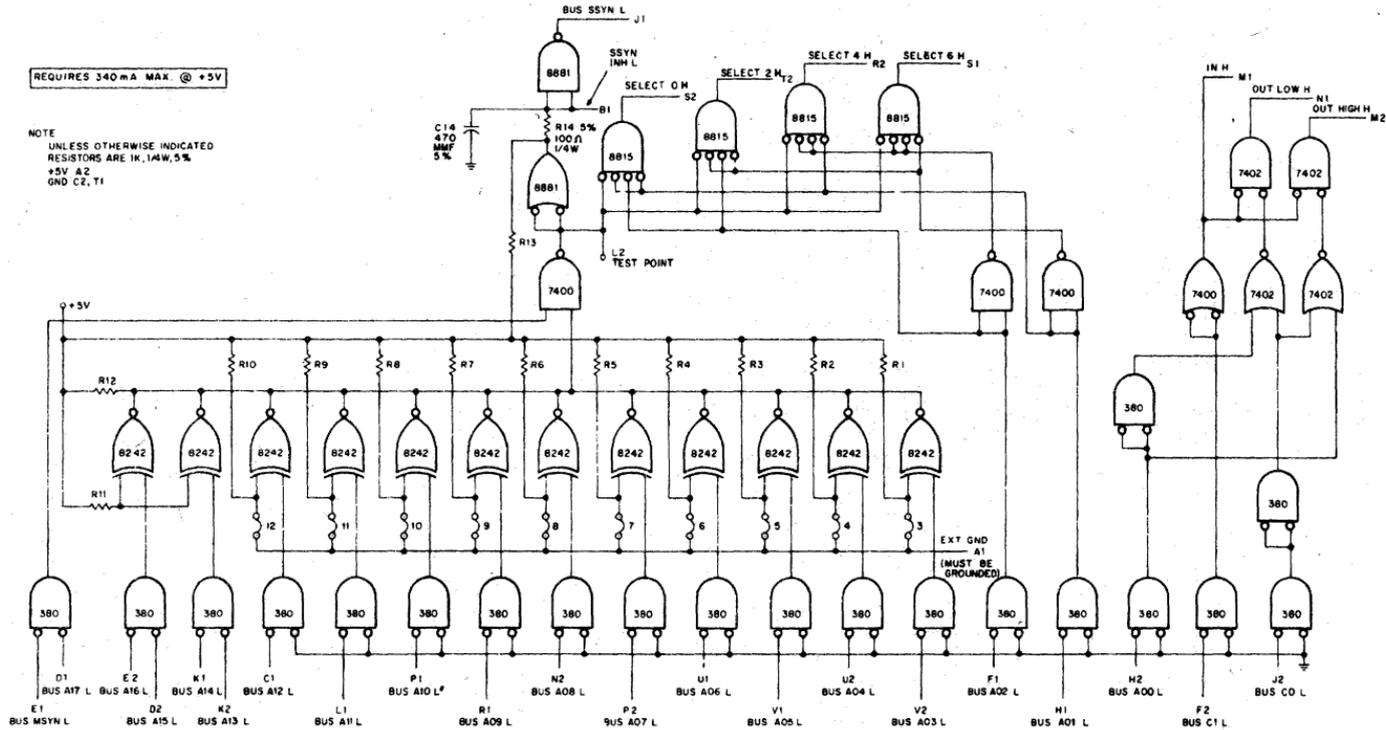

Figure 6-12 M105 Address Selector (schematic diagram)
**Specifications:** The M105 output fanout is ten standard TTL loads for register select lines and eight standard TTL loads for gating control lines. The module is single-height. A circuit schematic for this module is shown in Figure 6-12. Note that pin A1 (EXT GND) must be grounded by the user.